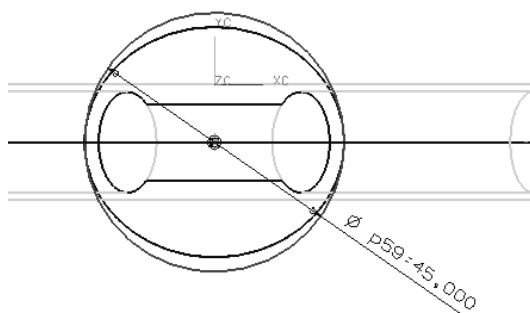

Figure 11-97 The first section curve drawn to create the ruled surface
2. Select the created plane as the sketching plane and draw the sketch, as shown in Figure 11-97.